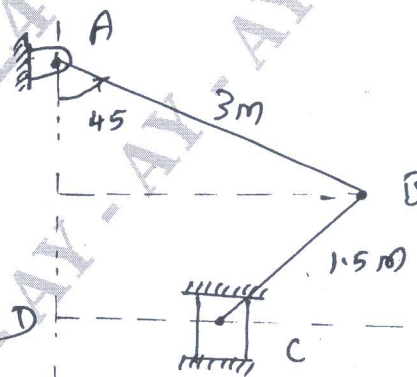

Fig.Q4(b)
b. In the mechanism shown in Fig.Q4(b), the slider C is moving to the right with a velocity of 1 m/s and an acceleration of 2.5 m/s^2 . The dimensions of various links are AB = 3m inclined at 45° with the vertical and BC = 1.5 m inclined at 45° with the horizontal. Determine: